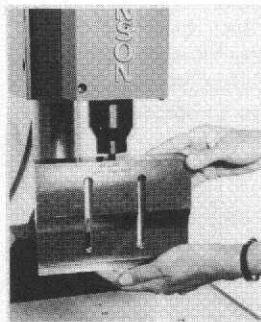

figure 6
9. Hand assemble the horn to the booster (Figure 6) and tighten with the spanner wrench (or appropriate tool) as in Step 5. **Do not** apply tool to lower part of horn.